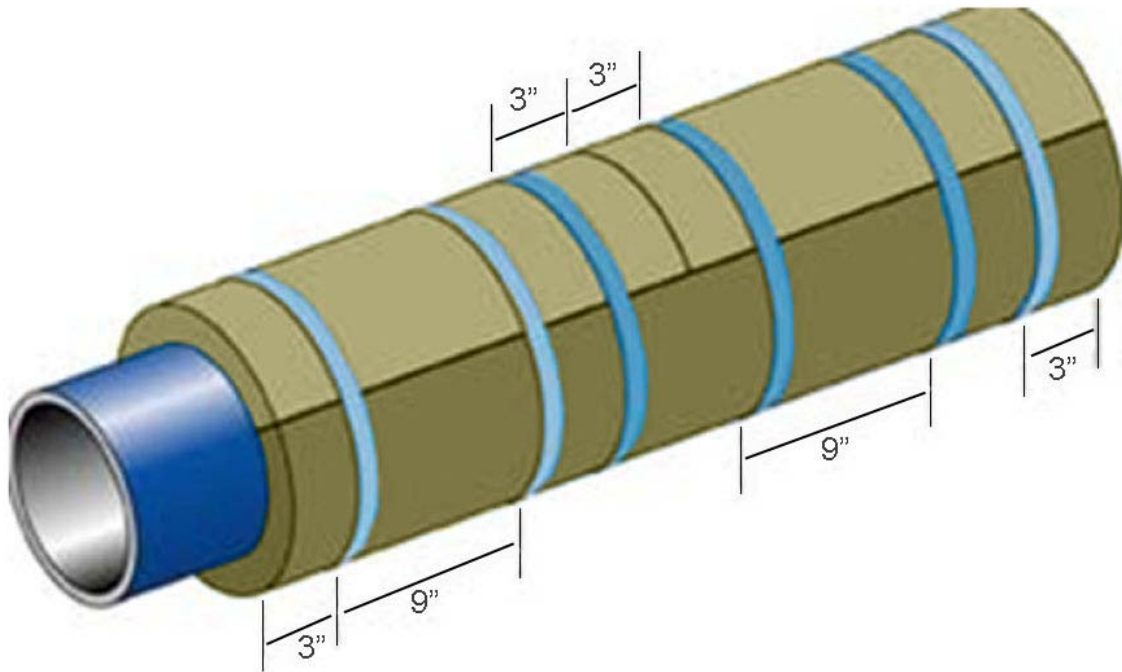

Figure 4
- 4.1.9 Insulation shall be secured to the pipe with 3/4" wide fiber reinforced tape. Tape shall be applied as per Figure 4 in Appendix B.